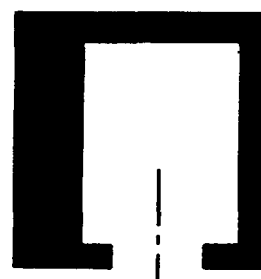

Figure 6: Typical Class 2 Semihollow Symmetrical Void, Non-symmetrical Surrounding Metal Thickness
① Group A alloys are 1060, 1100, 1350, 3003, 5454, 6061, 6063
② Group B alloys are 2011, 2014, 2024, 5083, 5086, 5456, 6066, 7001, 7075, 7178, 7079
③ See Figure 6 for typical methods of figuring ratios